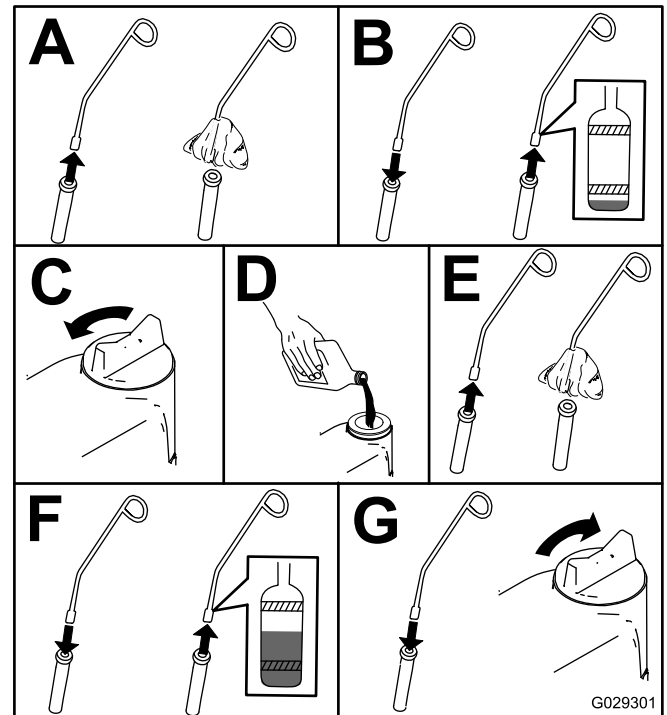

Figure 50
3. Check the engine-oil level as shown in Figure 50.